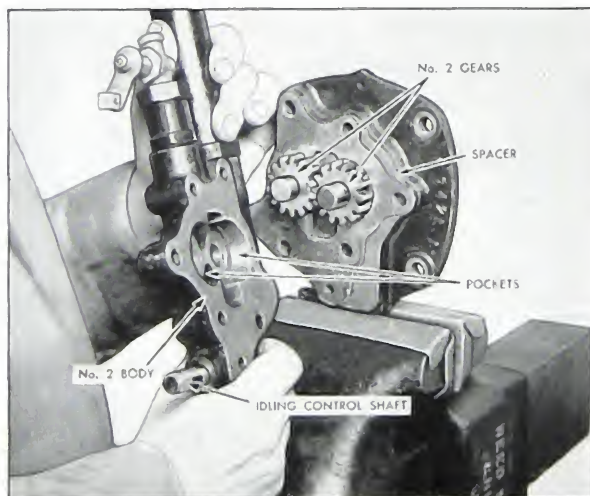

Fig. 5-24. Number 2 gears and body
4. Drive the bolts from the bodies with a bronze punch. The Number 2 body should slip off, leaving the gears on the shafts with the spacer plate and Number 1 body. Fig. 5-24.